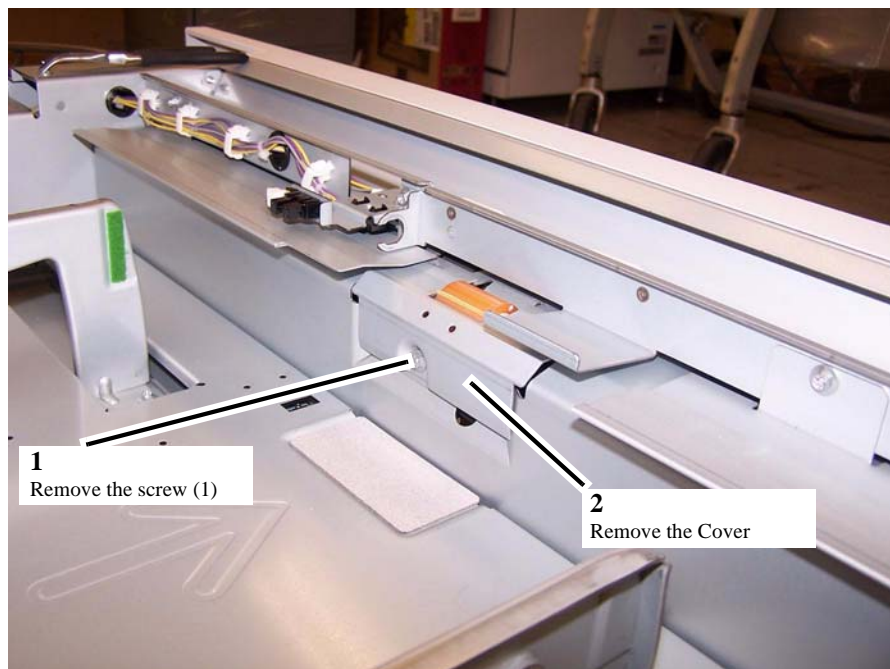

Figure 5 Removing the Retard Roll Cover
7. Remove the Cover (Figure 5).